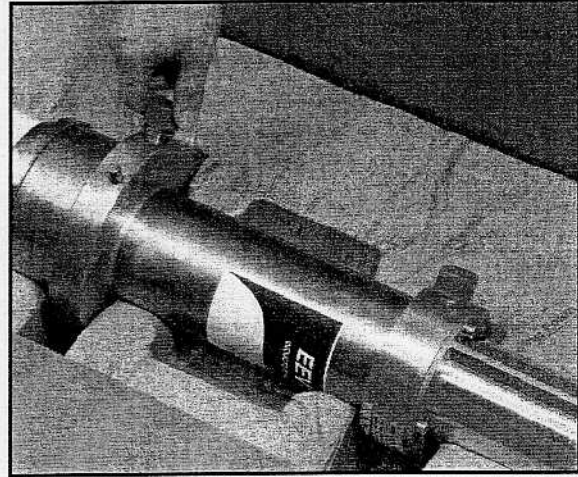

Fig. 29d
10. Refit the plastic caps to the tube water fittings (with O-rings in place) to help prevent coolant spillage (see Fig. 29d).